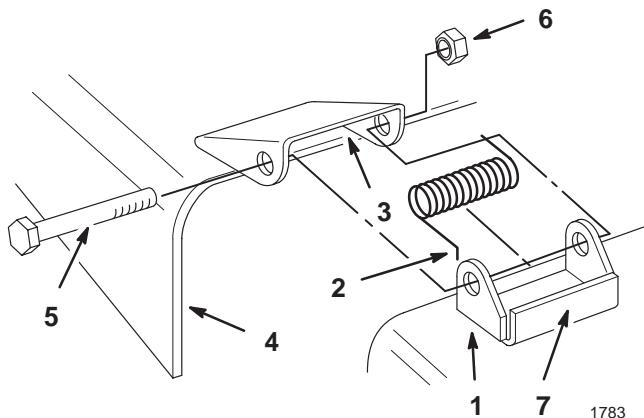

Figure 2
- Place the springs into the brackets on mower with the hooked ends over the raised back (Fig. 2).
- Align the grass deflector with the holes in the brackets and the spring straight end in the space under the hinge and above the deflector (Fig. 2).
- Secure the deflector to the bracket with 2 bolts (3/8 x 3-1/2 inch) and 2 locknuts (3/8 inch) (Fig. 2).